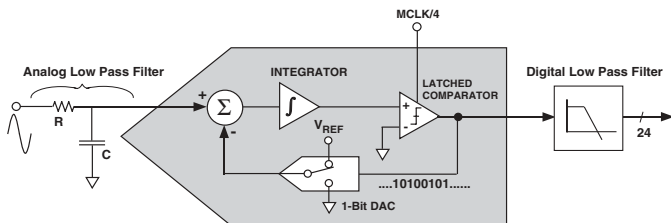
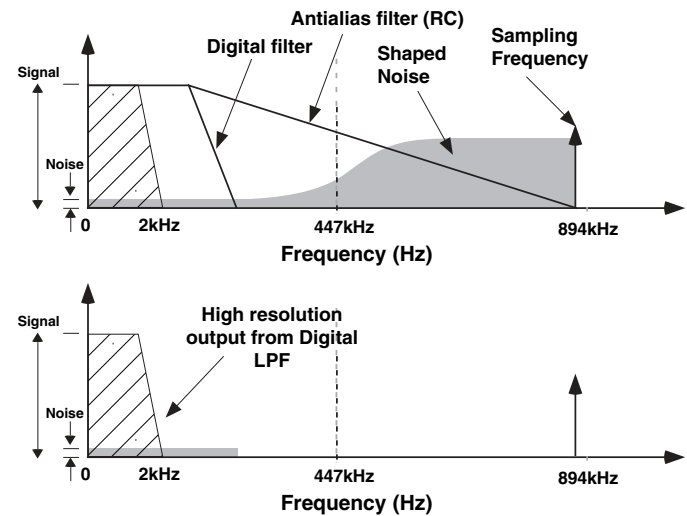
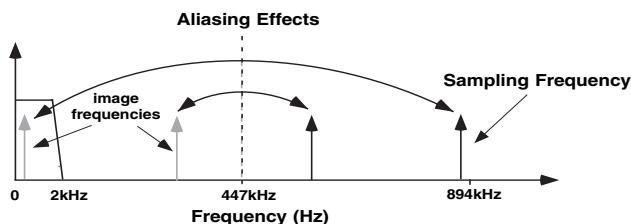

Figure 17– First Order Sigma-Delta ( $\Sigma$ - $\Delta$ ) ADC
Figure 18– Noise reduction due to Oversampling & Noise shaping in the analog modulator
Figure 19—ADC and signal processing in Channel 1
The analog-to-digital conversion in the ADE7753 is carried out using two second order sigma-delta ADCs. For simplicity reason, the block diagram in Figure 17 shows a first order sigma-delta ADC. The converter is made up of two parts: the sigma-delta modulator and the digital low pass filter.
The sigma-delta converter uses two techniques to achieve high resolution from what is essentially a 1-bit conversion technique. The first is over-sampling. By over sampling we mean that the signal is sampled at a rate (frequency) which is many times higher than the bandwidth of interest. For example the sampling rate in the ADE7753 is CLKIN/4 (894kHz) and the band of interest is 40Hz to 2kHz. Over-sampling has the effect of spreading the quantization noise (noise due to sampling) over a wider bandwidth. With the noise spread more thinly over a wider bandwidth, the quantization noise in the band of interest is lowered—see Figure 18. However, oversampling alone is not an efficient enough method to improve the signal to noise ratio (SNR) in the band of interest. For example, an oversampling ratio of 4 is required just to increase the SNR by only 6dB (1-Bit). To keep the oversampling ratio at a reasonable level, it is possible to shape the quantization noise so that the majority of the noise lies at the higher frequencies. This is what happens in the sigma-delta modulator, the noise is shaped by the integrator which has a high pass type response for the quantization noise. The result is that most of the noise is at the higher frequencies where it can be removed by the digital low pass filter. This noise shaping is also shown in Figure 18.
Figure 17 also shows an analog low pass filter (RC) on the input to the modulator. This filter is present to prevent aliasing. Aliasing is an artifact of all sampled systems. Basically it means that frequency components in the input signal to the ADC which are higher than half the sampling rate of the ADC will appear in the sampled signal at a frequency below half the sampling rate. Figure 19 illustrates the effect. Frequency components (arrows shown in black) above half the sampling frequency (also know as the Nyquist frequency, i.e., 447kHz) get imaged or folded back down below 447kHz (arrows shown in grey). This will happen with all ADCs regardless of the architecture. In the example shown, only frequencies near the sampling frequency, i.e., 894kHz, will move into the band of interest for metering, i.e., 40Hz - 2kHz. This allows the usage of very simple LPF (Low Pass Filter) to attenuate high frequency (near 900kHz) noise and prevents distortion in the band of interest. For conventional current sensor, a simple RC filter (single pole LPF) with a corner frequency of 10kHz will produce an attenuation of approximately 40dBs at 894kHz—see Figure 18. The 20dB per decade attenuation is usually sufficient to eliminate the effects of aliasing for conventional current sensor. For di/dt sensor such as Rogowski coil, however, the sensor has 20dB per decade gain. This will neutralize the -20dB per decade attenuation produced by the simple LPF. Therefore, when using a di/dt sensor, care should be taken to offset the 20dB per decade gain coming from the di/dt sensor. One simple approach is to cascade two RC filters to produce the -40dB per decade attenuation needed.